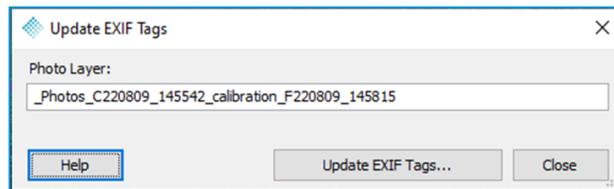

Figure 96 - Update EXIF Tags dialog
2. Select *Update EXIF Tags*  on the Sensor tab (Figure 95) to open the Update EXIF tags dialog (Figure 96).